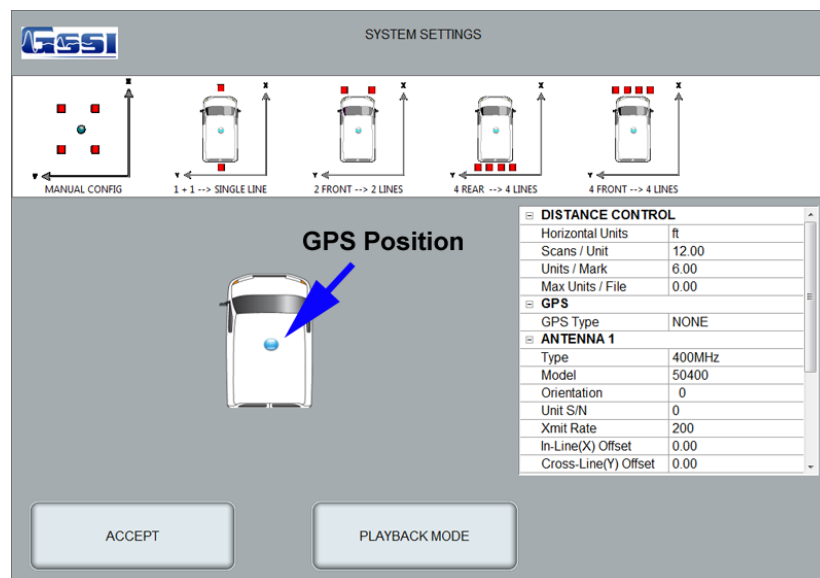

Figure 12: Initial System Settings
- 1 After clicking on your desired units, you will see the screen shown in Figure 12. From here you can tell the SIR-30 about the geometry of your collection setup, location of the GPS receiver, and also your desired scan density and mark spacing.
- 2 **Distance Control:** Choose your scan density and mark spacing. The scan density will be in whichever units are selected in the Horizontal Units option. In Figure 12, the option shown is 24 scans/ft. Common scan density settings for different applications may be found in Appendix A.